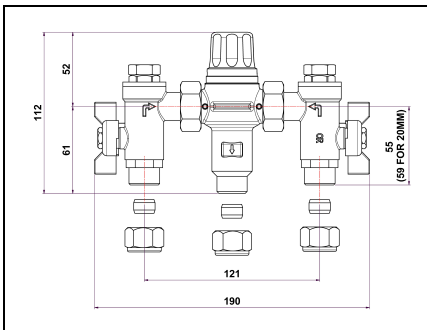

Figure 2 Physical Dimensions
- Ensure the installation allows **sufficient room for service and maintenance** procedures. Figure 2 shows the physical dimensions of the valve and fittings.